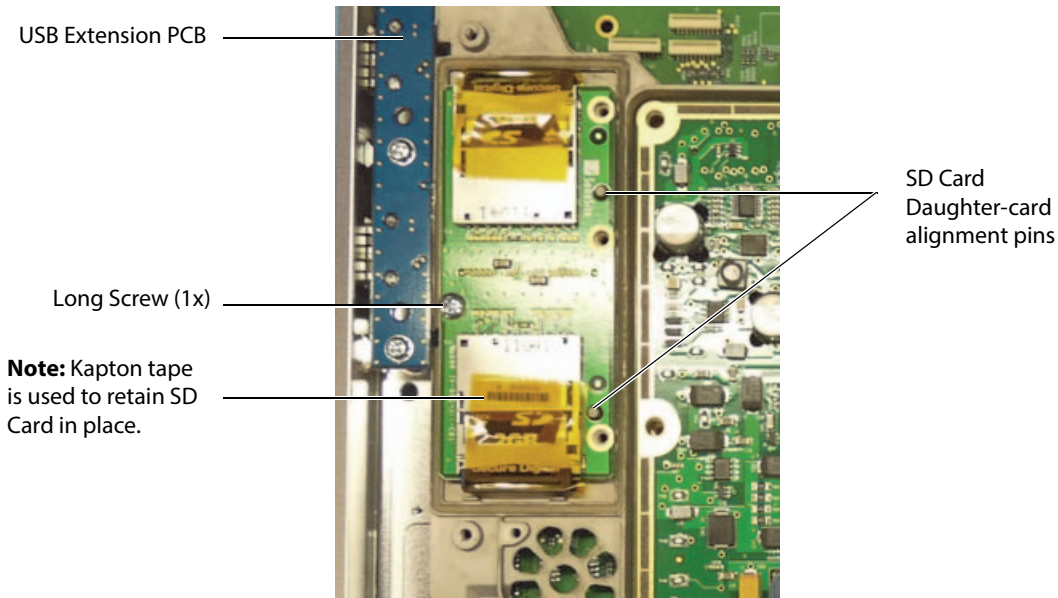

Figure 6.13 SD Card Daughter-card
- 1 Remove the 1 long screw holding from the SD Card Daughter-card. See Figure 6.13.
- 1 Install the SD Card Daughter-Card onto the Main PCBA frame using the alignment holes/pins on the card and frame. See Figure 6.13.
- 2 Install the 1 long screw ensuring the proper location. See Figure 6.13.